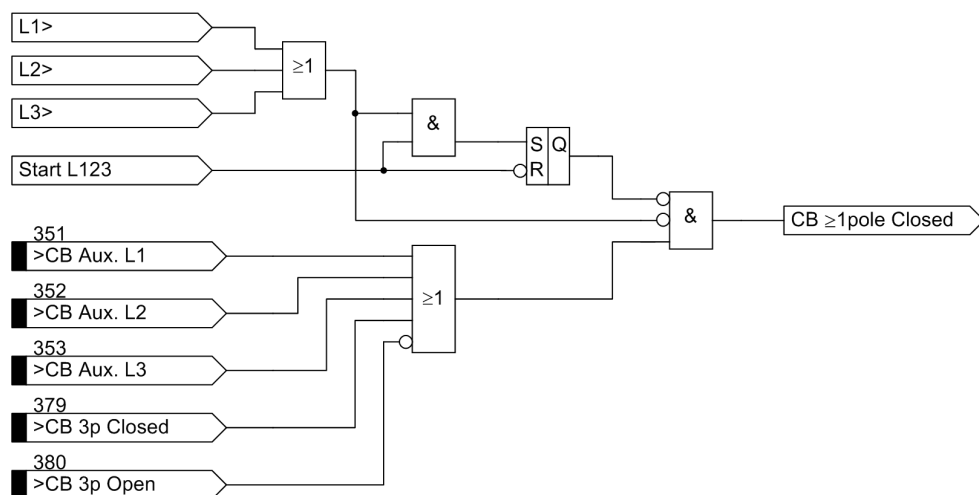
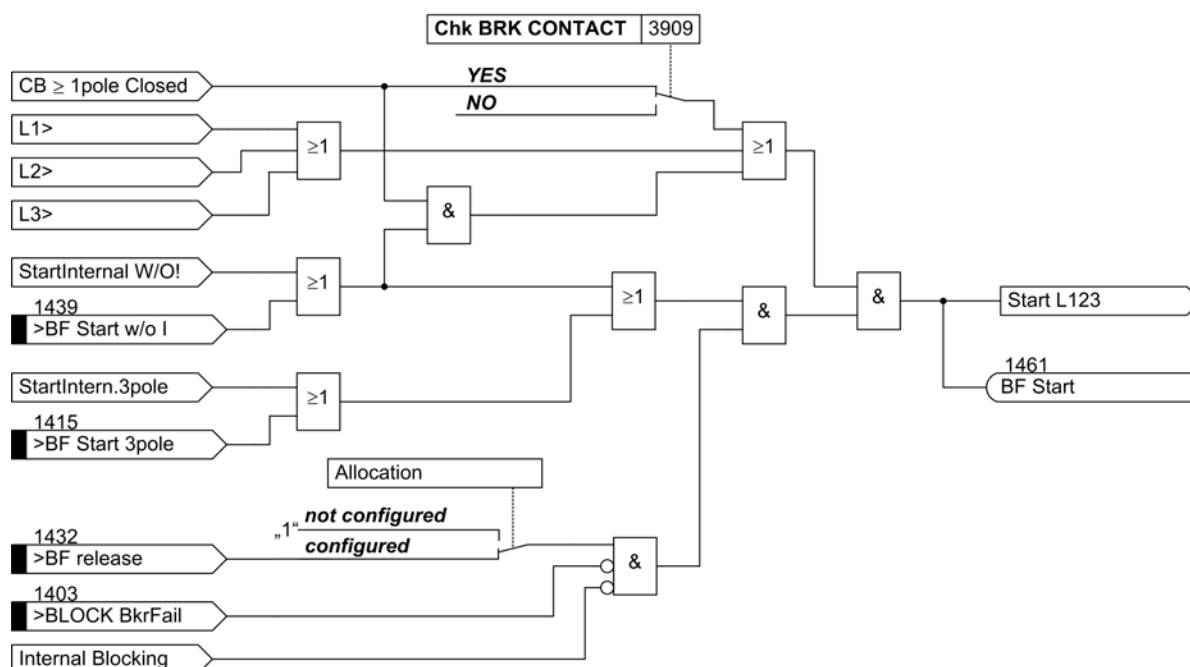

Figure 2-133 Creation of signal "CB \geq any pole closed"
Figure 2-134 Breaker failure protection with common phase initiation
It is possible to disable the auxiliary contact criterion. If you set the parameter switch **chk BRK CONTACT** (Figure 2-134 top) to **NO**, the breaker failure protection can only be started when current flow is detected. The position of the auxiliary contacts is then not evaluated even if the auxiliary contacts are connected to the device.
(Figure 2-134 left). This input initiates the breaker failure protection even if no current flow is detected.
Figure 2-134 shows the operating principle. When the trip signal appears from any internal or external feeder protection and at least one current flow criterion (according to Figure 2-131) is present, the breaker failure protection is initiated and the corresponding delay time(s) is (are) started.
If the current criterion is not fulfilled for any of the phases, the position of the circuit breaker auxiliary contact(s) is queried provided that this is available according to Figure 2-133. If the circuit breaker poles have individual auxiliary contacts, the series connection of the three normally closed (NC) auxiliary contacts is used. The circuit breaker has operated correctly after a three-pole trip command only when none of the phases carries current or when all three NC auxiliary contacts have closed.
Figure 2-133 illustrates how the internal signal "CB pole \geq L1 closed" is created (see Figure 2-134 left) if at least one circuit breaker pole is closed.